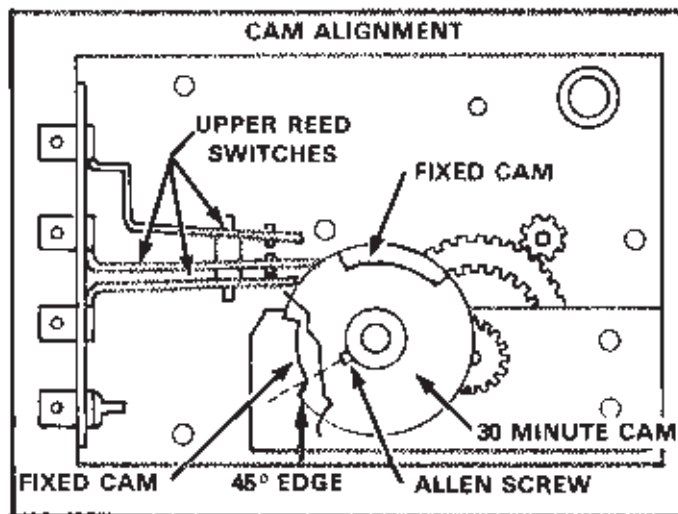

FIGURE 8
- 6 - Align the allen screw on the 30 minute cam with the 45° edge of the fixed cam as shown in figure 8 and tighten allen screw.